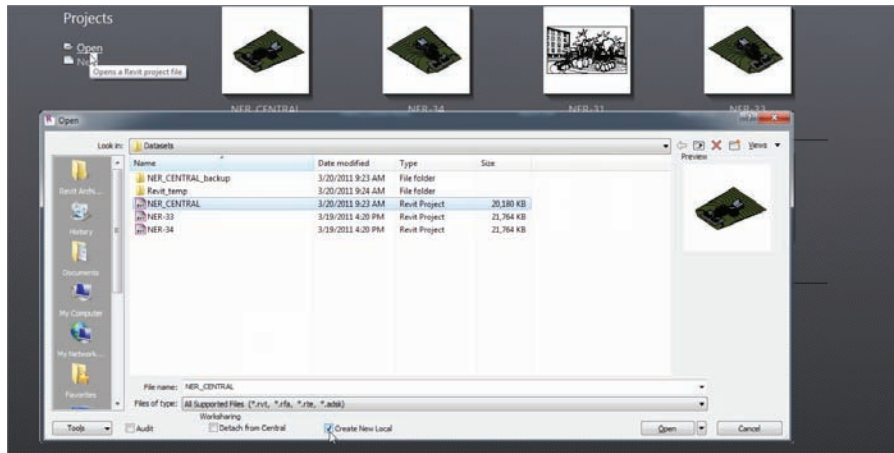

FIGURE 22.11 Creating a new local model
5. At the bottom of the dialog is a Create New Local check box. Make sure it's selected. (See Figure 22.11.)